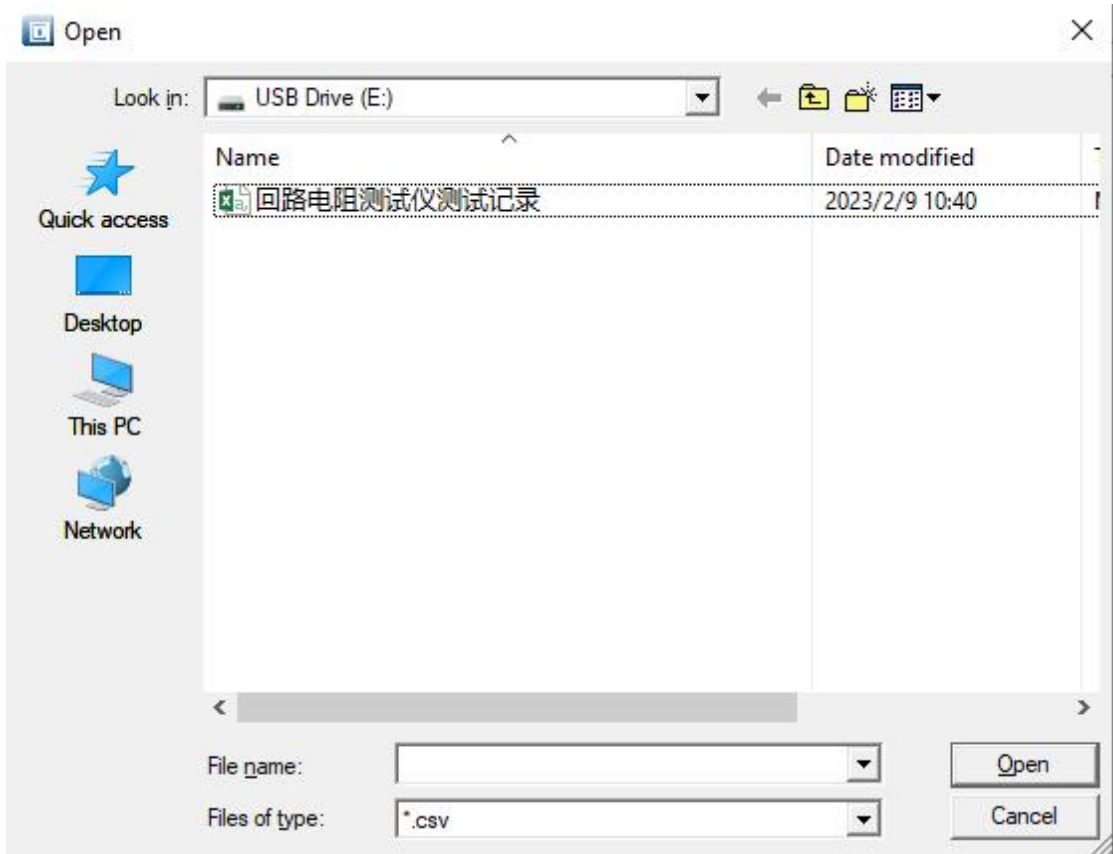
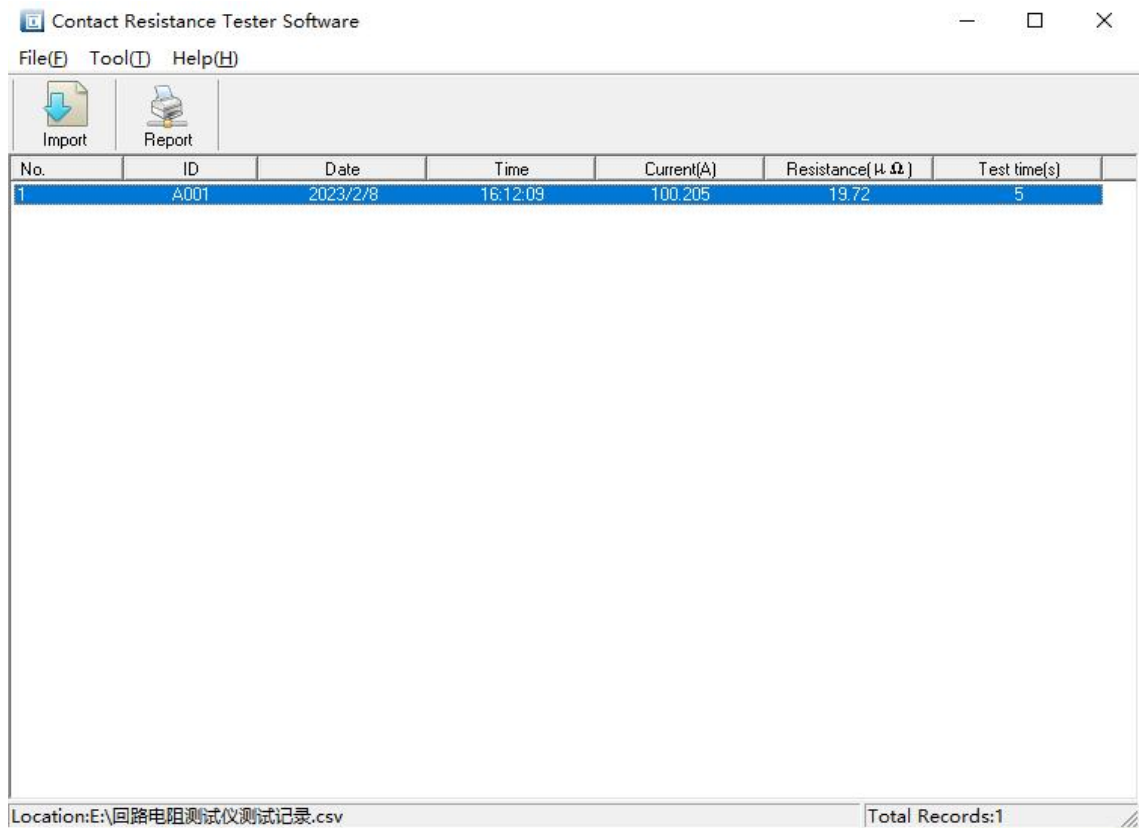

Figure 25 Importing date
Figure 26 Successful import
(2) Import data: Insert the USB flash drive, click the "Import Data" button, click the file name to be imported, as shown in Figure 25, click Open to enter the import success interface, as shown in Figure 26.
3) Generate Report: In Figure 26, select one of the records and click the "Generate Report" button to generate a report in word format for that record, as shown in Figure 27.